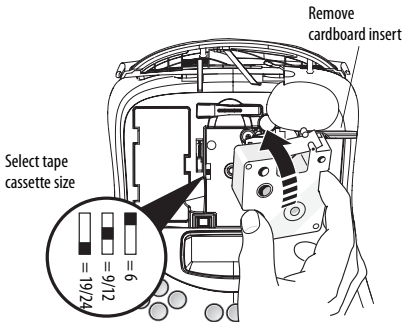

Figure 4
The first time you use the labelmaker, remove the protective cardboard insert from between the print head and pinch roller. See Figure 4.
2. Set the cassette switch for the size of the tape cassette that you are inserting. See Figure 4. A notch in the cassette fits over the switch when the cassette is in the correct position.